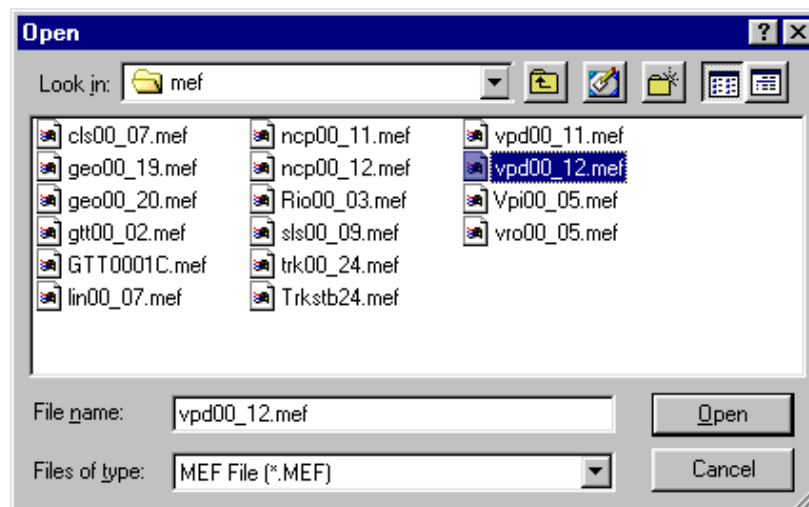

Figure 3-10
8. The **Open** window is displayed to select the path and filename to the desired MEF for loading (figure 3-10).